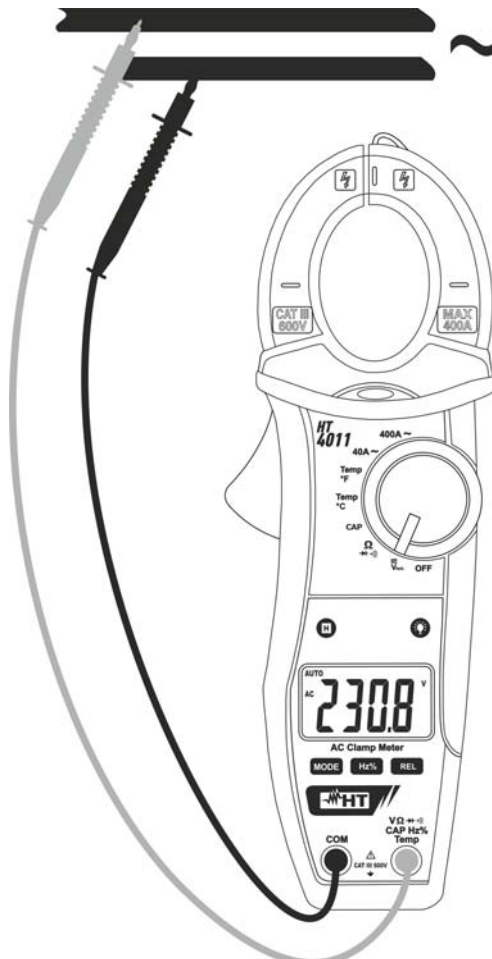

Fig. 4: Use of the clamp for AC Voltage measurement
5. Position the test leads in the desired points of the circuit to be measured (see Fig. 4). The display shows the value of voltage